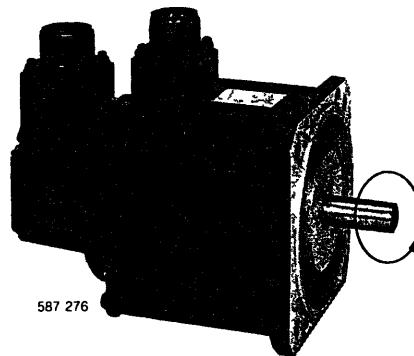

Fig. 9.1 Motor Forward Running
- When the reference voltage is positive, the motor rotates forward (counterclockwise rotation when viewed from drive end-output shaft) (Fig. 9.1)